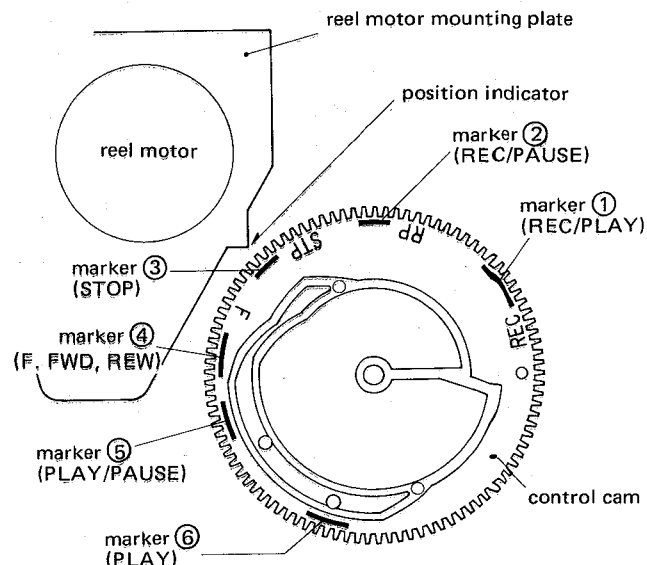

Fig. 4-4 Control cam positioning
2. Push PLAY (▶) button together with REC button, then check that the center of marker ① coincides with position indicator of the reel motor mounting plate. If not, adjust by using R399.
3. After pushing STOP button, depress the PLAY button. Then check the center of marker ⑥ agrees with the indicator. R371 is provided for this adjustment.
4. Pushing the STOP button, check that the center of marker ③ coincides with the indicator as shown in Fig. 4-4. R379 is for this adjustment.
5. Check that when in REC/PAUSE mode the indicator is within range of marker ②.
F. FWD and REW modes: marker ④.